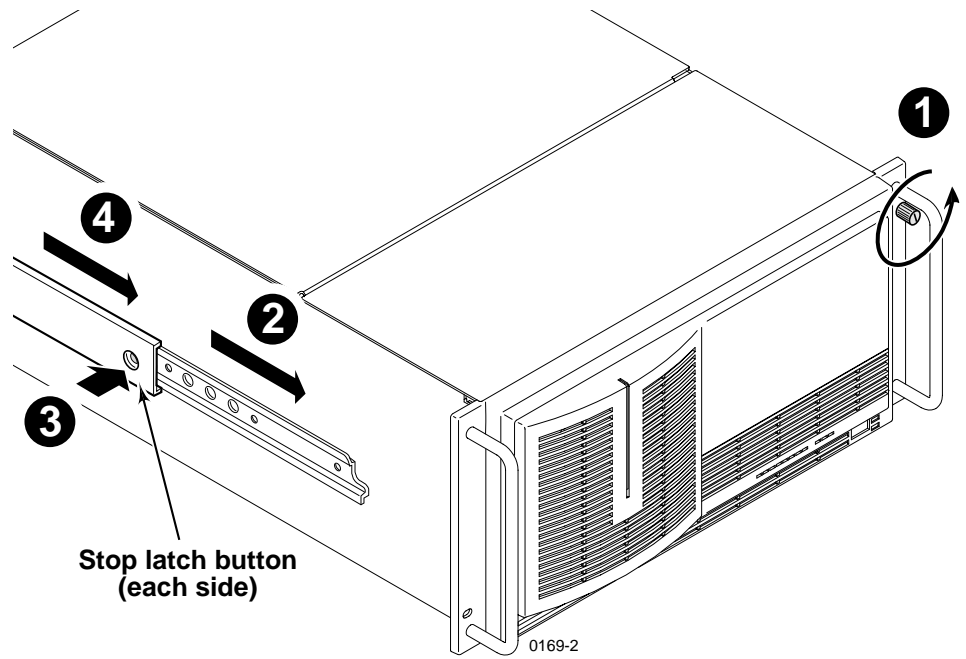

Figure 1. Removing the Profile unit from the instrument rack
2. Loosen the front-panel retaining screw (❶ in Figure 1).
3. Grasp the handles and pull the chassis out (❷ in Figure 1) until the slides latch. This holds the Profile chassis firmly in position.
4. With a person on each side of the unit, press in both track stop latch buttons (❸ in Figure 1) and carefully slide the Profile chassis free of the tracks (❹ in Figure 1).